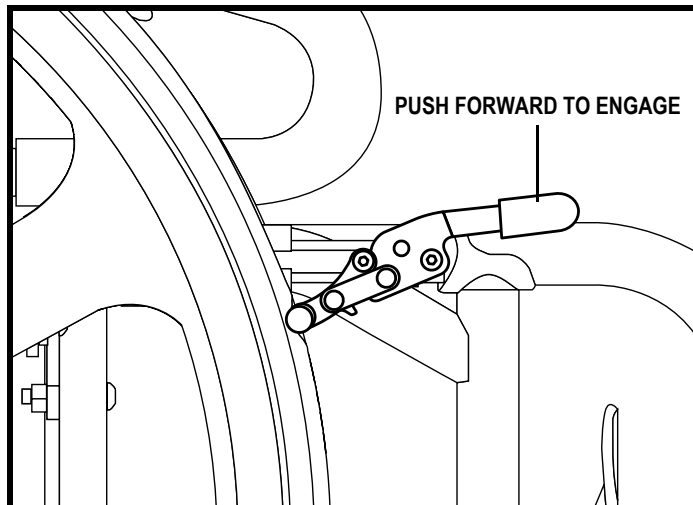

Figure 6. Right Manual Wheel Lock Engaged (Push-to-Lock Shown)
1. Engage both manual wheel locks. See figure 6.